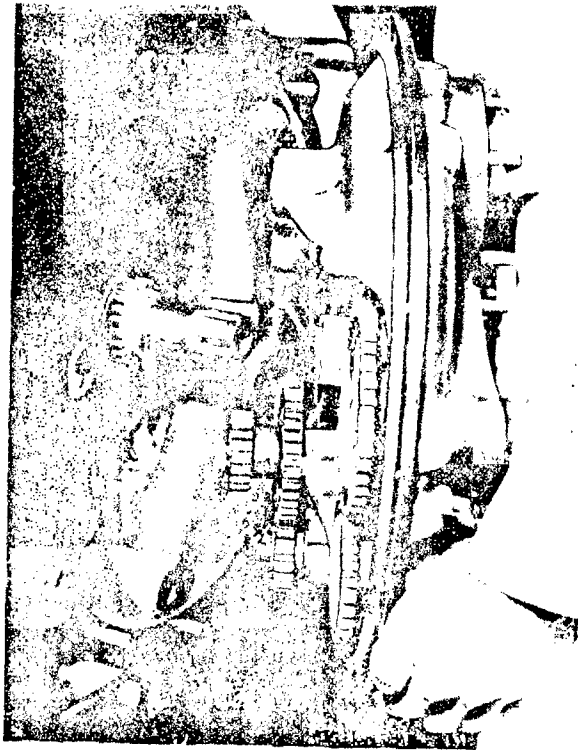

Figure 82 — Installing Accessory Case
(1) Place the gasket on the rear crankcase half so that the low pressure oil hole in the gasket is in line with the low pressure oil hole in the accessory case. Place scavenge oil line gasket in position on the rear crankcase.
(2) Lubricate cam track, cam gear, cam drive gear, cam followers, tailshaft and the threads inside the tailshaft.
(3) With the crankshaft starter gear pushed back against the accessory case, place the accessory case in position over the tailshaft. (See figure 82.)
(4) Turn the case slightly to the right of its proper position and press lightly toward the main case until the accessory case is against the attaching studs.
(5) Turn the case to left until the case lines up on the studs.
(6) If the studs lack about 1/8 inch of being flush with the outside of the case, the cam has not engaged the cam gear.